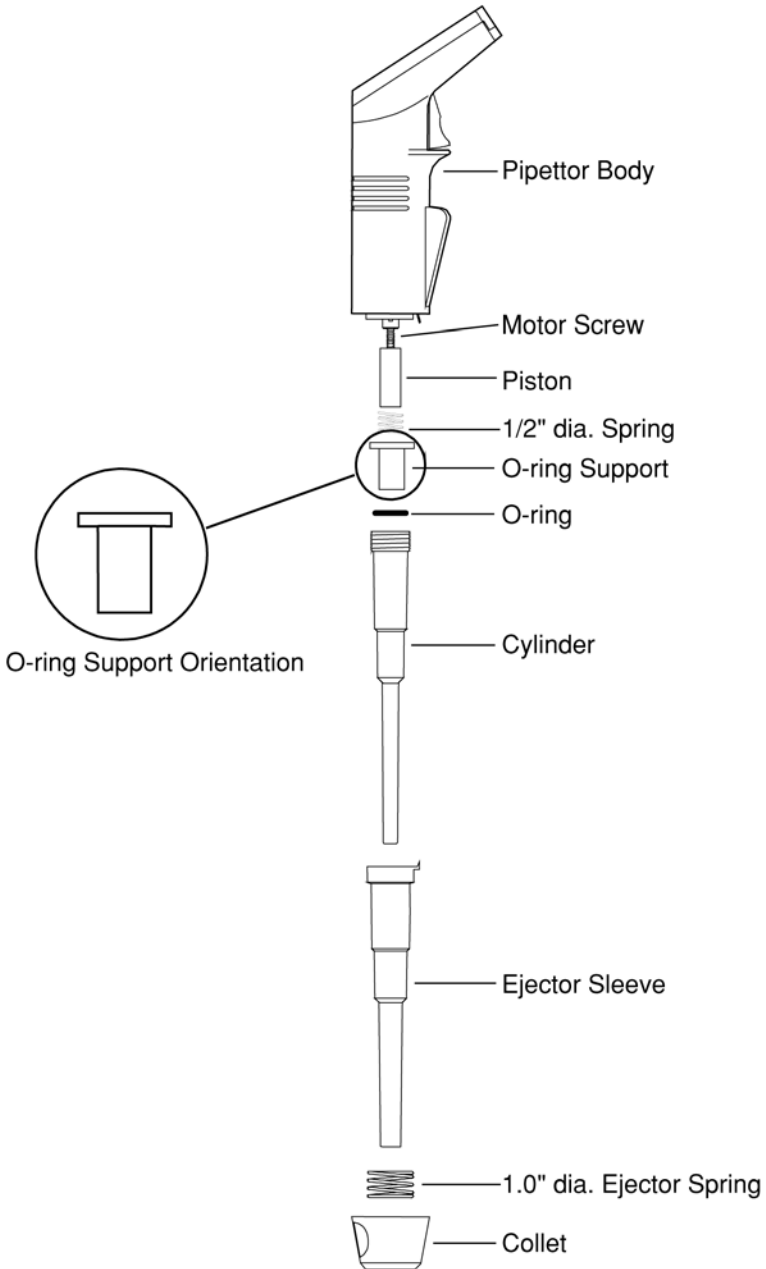

Figure F.1.1c: Pipette Tip Assembly
4. Remove O-ring, O-ring support, and 1/2" diameter spring for cleaning by sliding them off of the the piston (refer to *Figure F.1.1c*).
After cleaning or decontaminating the disassembled parts, the pipette can be reassembled (refer to Figure F.1.1c for parts identification and reassembly order).